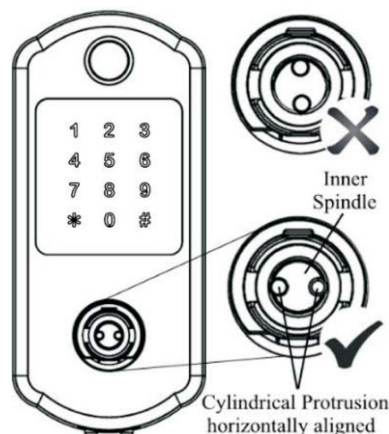

fig. 6
**3.1 Rotate inner Spindle by Screwdriver to make the Cylindrical Protrusions horizontally aligned (see fig. 6). (Please also refer picture on page 17 and 18).**
3.4 Put the lever on the Lever Spindle (see fig. 7c or 8c). The lever should stop half way when you push the Lever in. **(Caution: Refer fig. 6 to do step 3.1 and 3.2 if Cylinder is stuck in lever or if the key can't be inserted completely and rotated.)** Insert key into the Cylinder, rotate the key **CLOCKWISE** 90° (see fig. 9a). Continue rotating the key while pushing the lever until the lever is pushed in (see fig. 9b). The